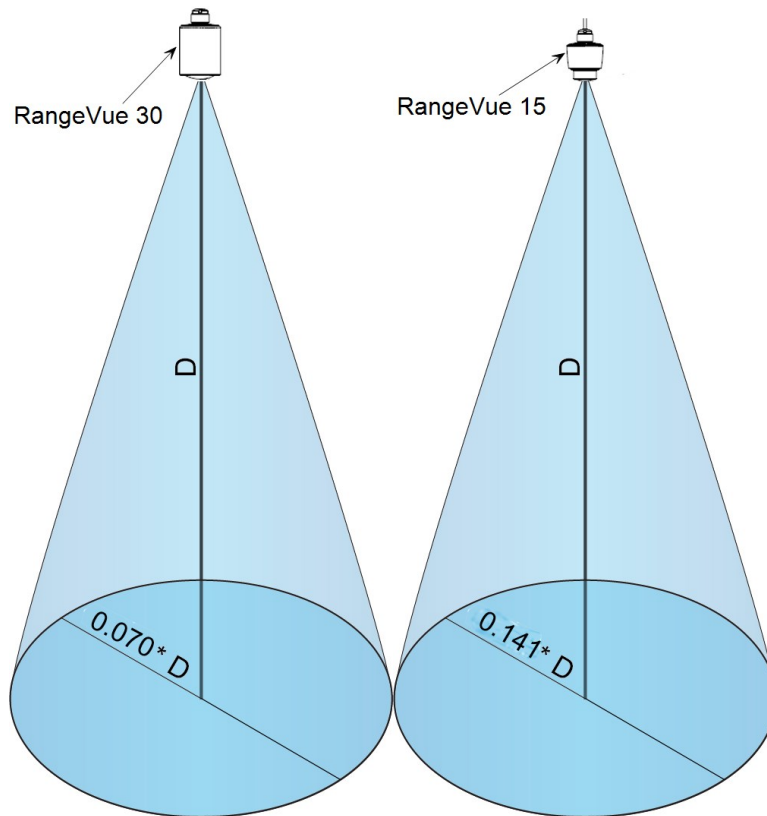

Figure 7-1. Beam path clearances
- **Obstructions:** Mount the sensor away from obstructions (both above and under water) in the radiation beam path, which spreads as it leaves the sensor. Obstructions to be aware of include excessive waves, splashing, pipes, wires, rocks, bridge piers, and logs. Determine the required clearance for the beam angle using the following formulas and Figure 7-1 (p. 12).